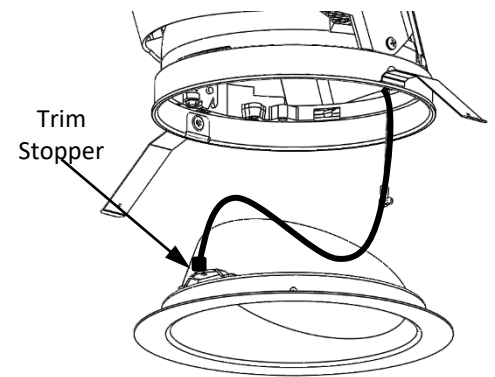

Fig.7
4. For (C6_A) Ensure Trim Section is fully engaged with Light Engine, sits level against ceiling, and does not interfere with tether assembly or inner edge or reflector.(Fig.7)